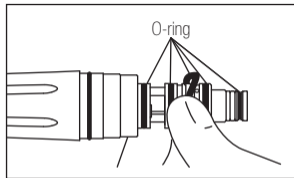

Fig. 14
- 2) Gently remove each O-ring by hand. (Fig. 14)